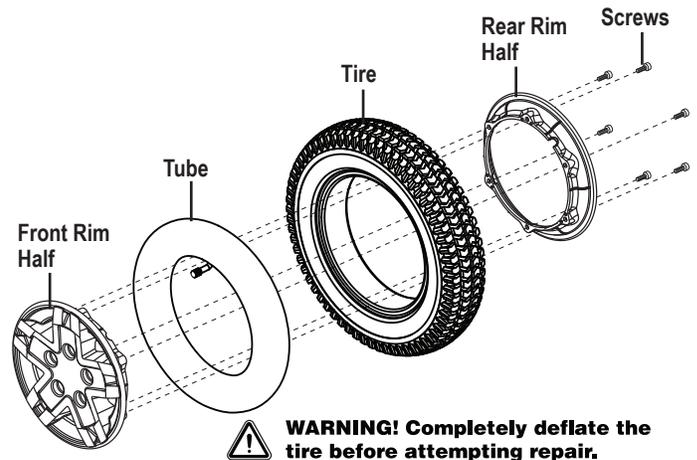

Figure 21. Q4 Drive Wheel Disassembled
6. Remove the screws and separate the front and rear rim. **See figure 21.**
10. Reinstall the five (5) lug nuts onto the wheel hub and tighten.